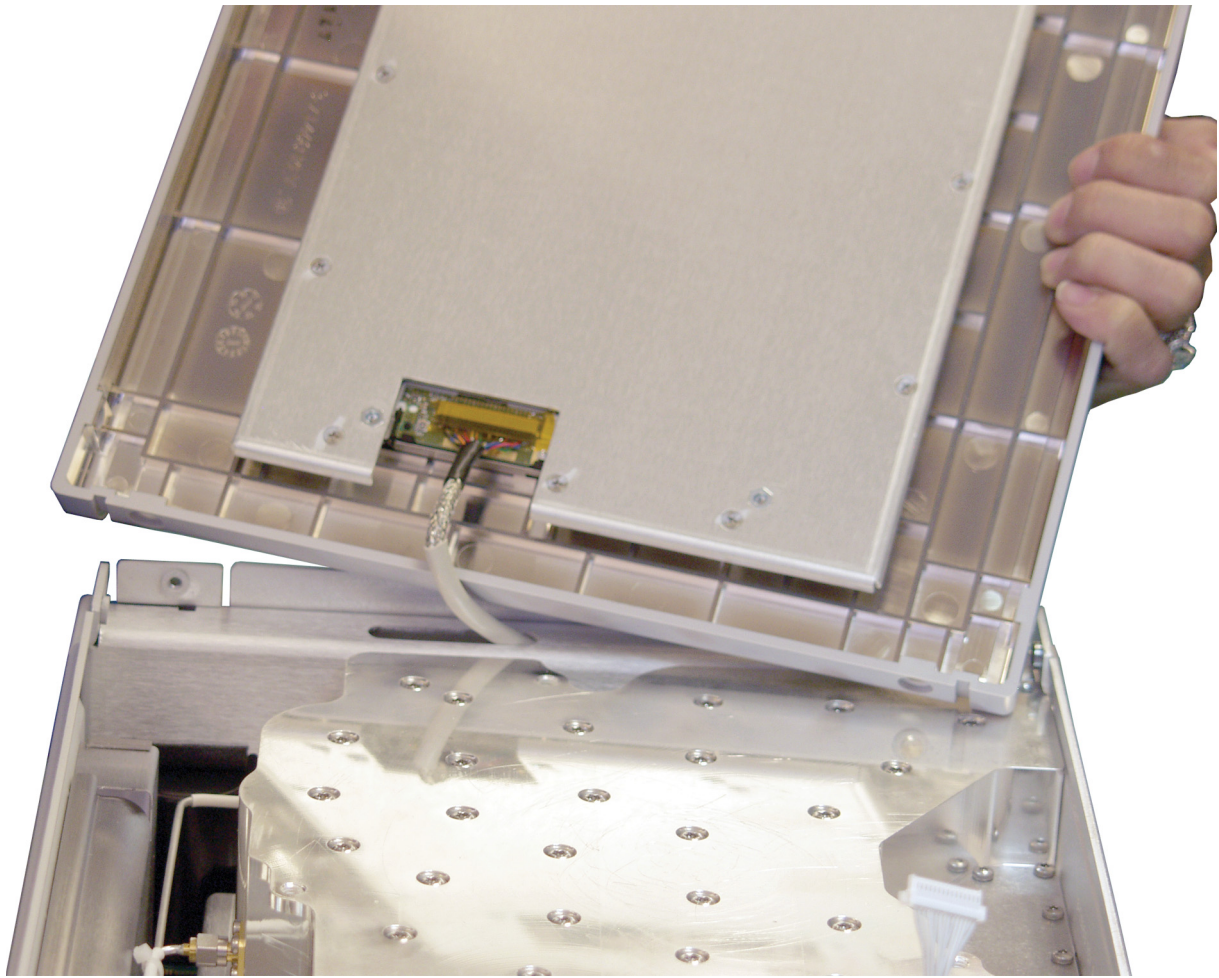

Figure 5-22. Front Panel LCD Cable Connection
9. Continue lifting the front panel and peel the Mylar tape off the LCD cable connector. Disconnect the LCD display cable from the front panel (Figure 5-22). In newer models, a second cable that connects to the LCD backlight must also be removed.